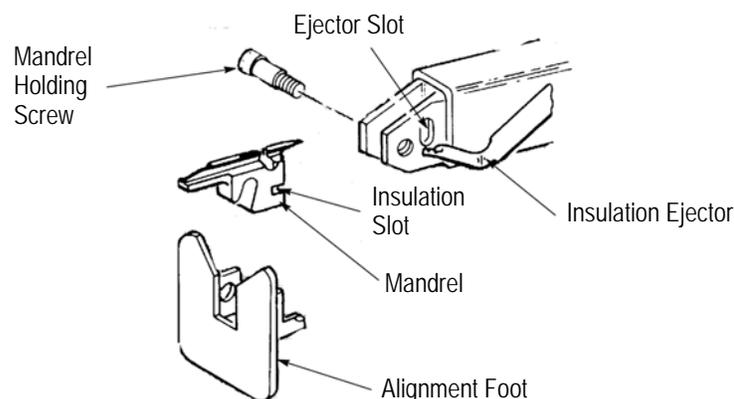

Figure 3
1. Remove the mandrel holding screw and the alignment foot from the front of the tool. See Figure 3.